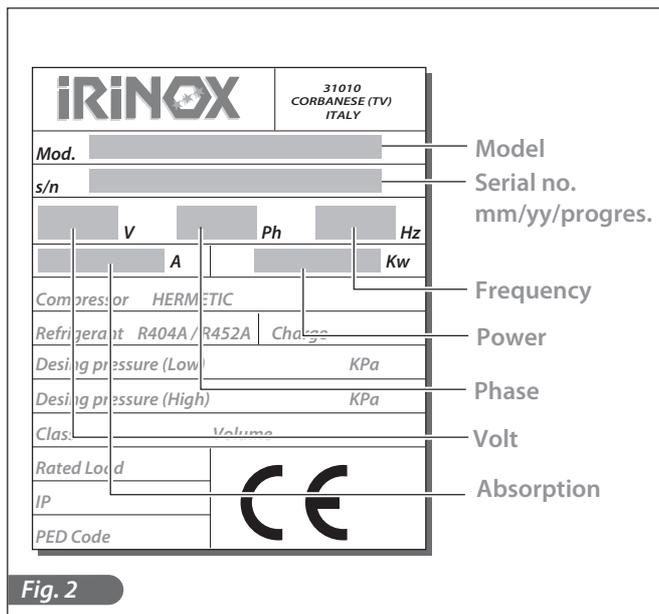

Fig. 2
- The plate showing the appliance's characteristics is affixed on the right side of the holding cabinet (fig.2) and under the control panel.